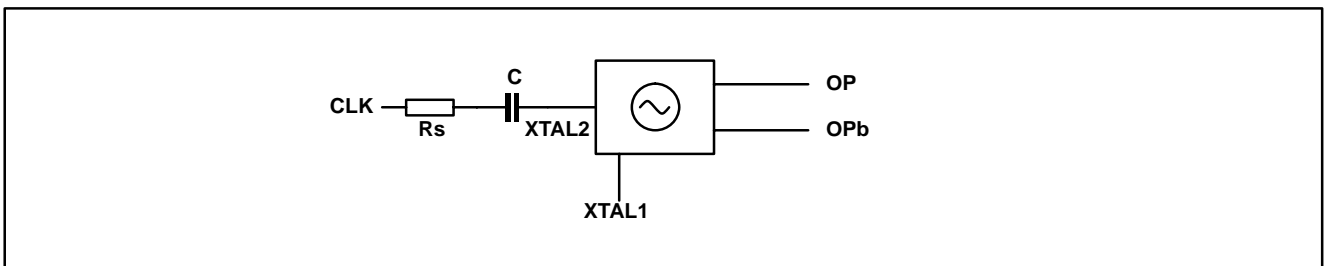

Fig.7 Direct drive of crystal oscillator
Alternatively, a reference clock can be provided by an external source connected to pin XTAL2 Fig. 7.
1. Ability to directly drive crystal oscillator from the tester (no Crystal). The XTAL2 pin allows direct drive of the oscillator with an external clock source as shown in Fig. 7. Typically a 200mVpk clock signal is AC coupled to produce differential output on OP and OPb to the PFB (C=10nF, R s (Source) <5Ω)